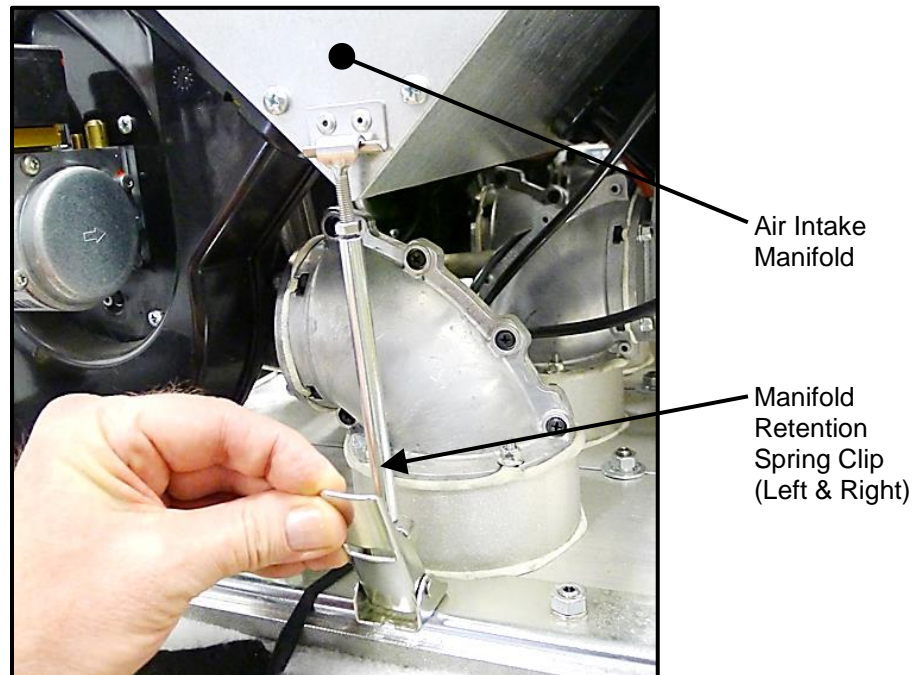

Figure 8-9: Unlatch Spring Clips from Left and Right Side of Manifold (Step 5)
5. On each side of the air intake manifold, unlatch spring clips holding it in place (Figure 8-9).